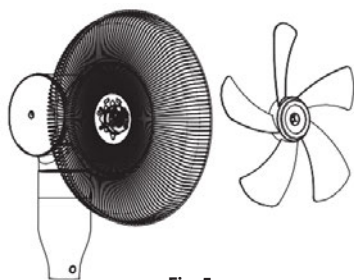

Fig. 5
4. Insert the blade unit onto the shaft and tighten it firmly using the blades locking nut (see figures 5 and 6).